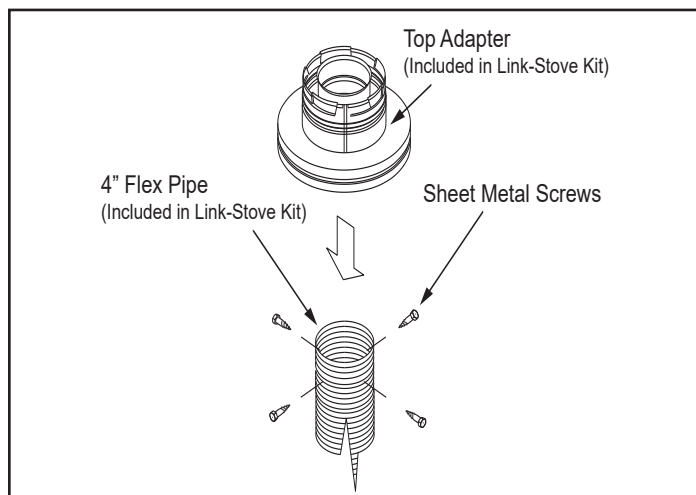

Figure 3.20
3. Connect the end of the flex pipe section to the underside of the top adaptor, using four sheet metal screws. See Figure 3.20.